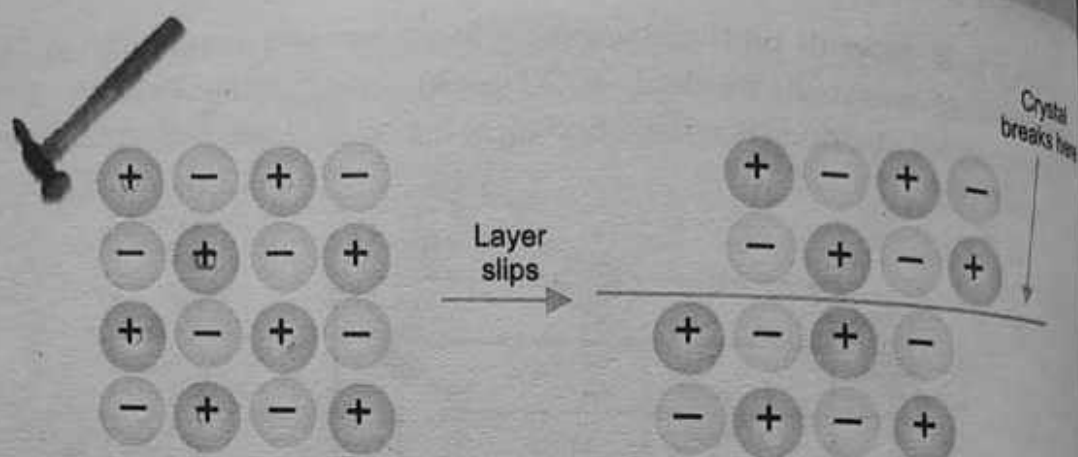

Figure 6.17 An Ionic Crystal is Brittle and Breaks by Hammering
3. Ionic solids are brittle. They shatter easily by hammering as shown in figure 6.17.